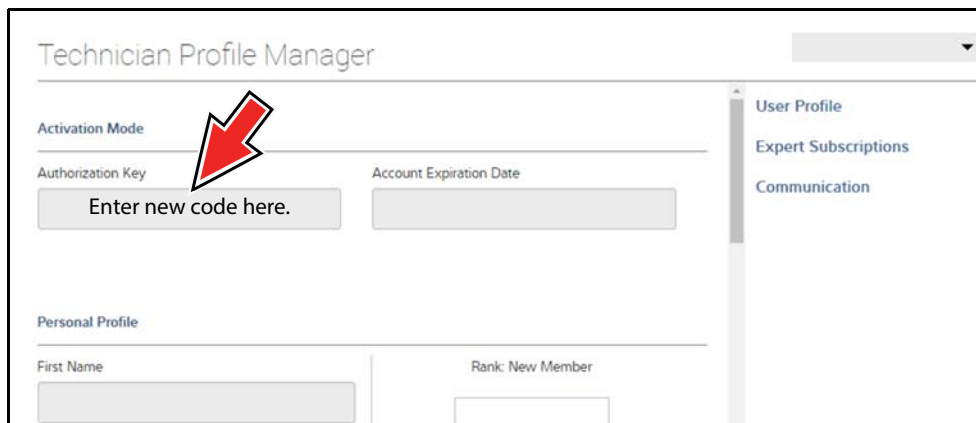

Figure 10-17
7. Enter your new **Authorization code** (Figure 10-17).